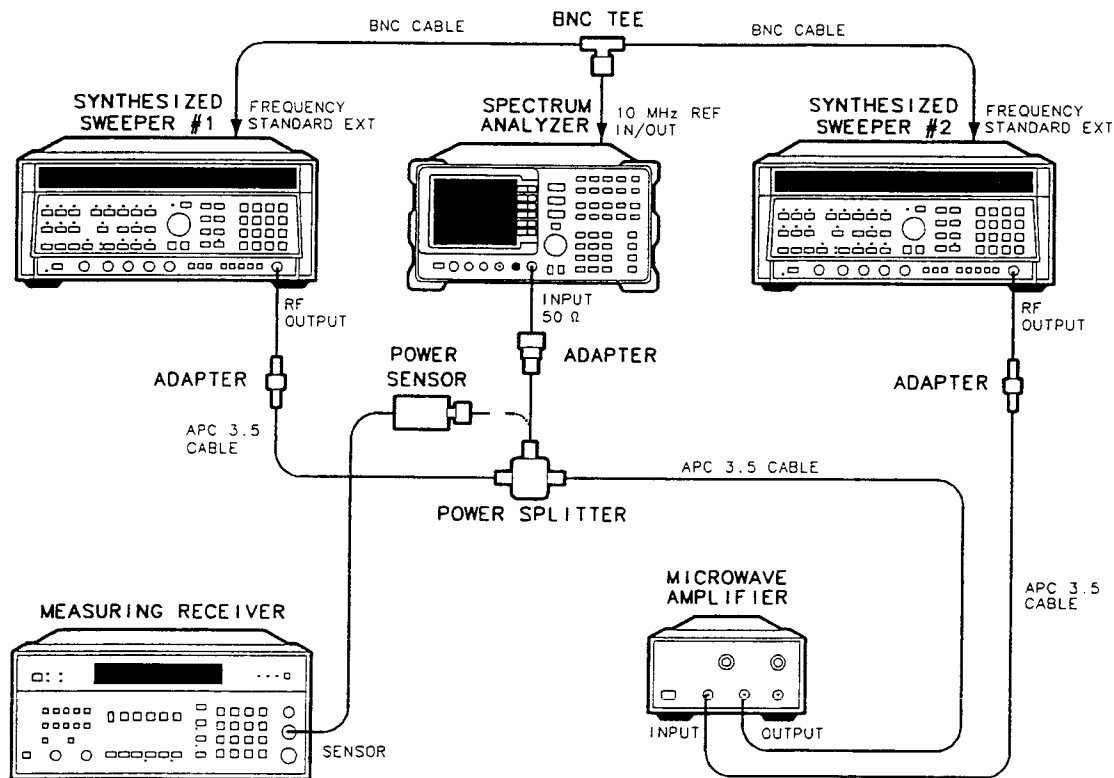

Figure 3-23. Gain Compression Test Setup
2. Connect the equipment as shown in Figure 3-23, with the output of the power splitter connected to the HP 8485A Power Sensor.